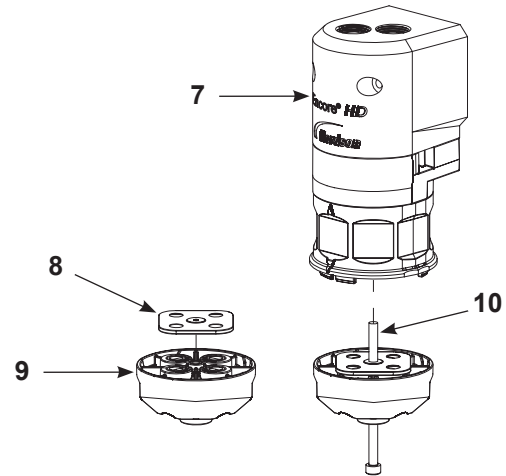

Figure 23 Assemble Gasket and Lower Y Block
NOTE: Any time the pump is disassembled, the Y block gasket (item 10 in Figure 23) must be replaced.
3. See Figure 23. Assemble gasket (8) over lower Y block (9), then thread long screw (10) through the lower y block and into the pinch valve housing, upper Y block and purge manifold. Torque screw to 25-30 in.-lb (2.8-3.4 N•m).
- See Figure 23. After the pump is assembled, completely tighten the long screw (10) to fit all components together completely.